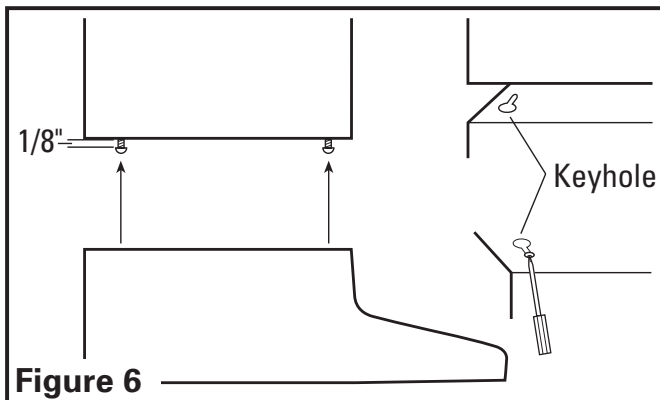

**Figure 5**
- For 3-1/4" x 10" vertical or horizontal ducting, install the damper assembly to the hood by sliding the tabbed section of the damper under the hood body and securing with the two provided screws. For 7" round ducting, secure either a model E-22A or RCD7 Duct Collar (not included) to the hood with the three provided screws (**Figure 5**).